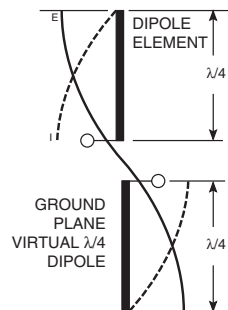

Figure 31: Dipole Antenna
4. In many antenna designs, particularly  $\frac{1}{4}$ -wave whips, the ground plane acts as a counterpoise, forming, in essence, a  $\frac{1}{2}$ -wave dipole (Figure 31). For this reason, adequate ground plane area is essential. The ground plane can be a metal case or ground-fill areas on a circuit board. Ideally, it should have a surface area less than or equal to the overall length of the  $\frac{1}{4}$ -wave radiating element. This is often not practical due to size and configuration constraints. In these instances, a designer must make the best use of the area available to create as much ground